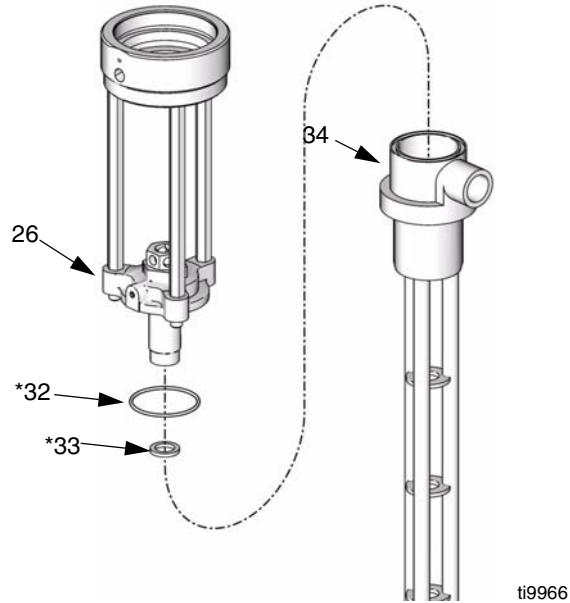

FIG. 23
- Unscrew mounting flange (26) from pump body (34). Remove o-ring (32*) and PTFE gasket (33*) from pump body (34). Inspect all parts for damage. See FIG. 23.